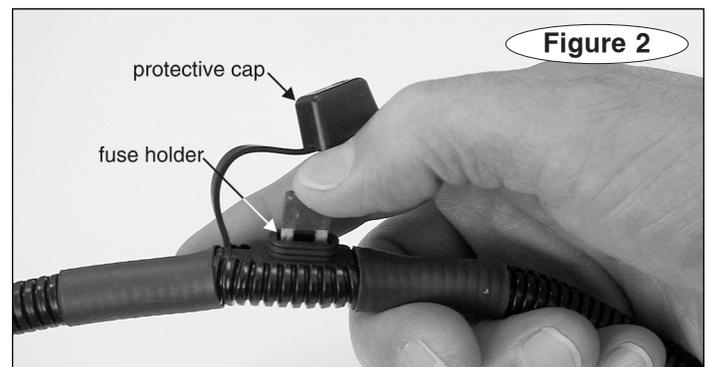

Figure 2
16. IMPORTANT – Install the fuses you removed from the towed vehicle into the FuseMaster holders (Figure 2).
Confirm that the fuses are fully seated. Replace the protective cap (Figure 2).